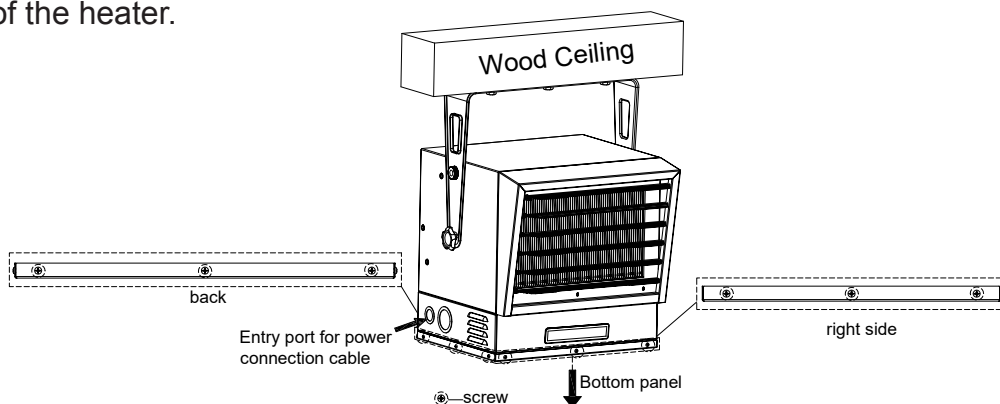

Figure 8
1. Remove the screws from the heater bottom, take off the bottom panel, and connect the power supply to the heater (See Figure 8).